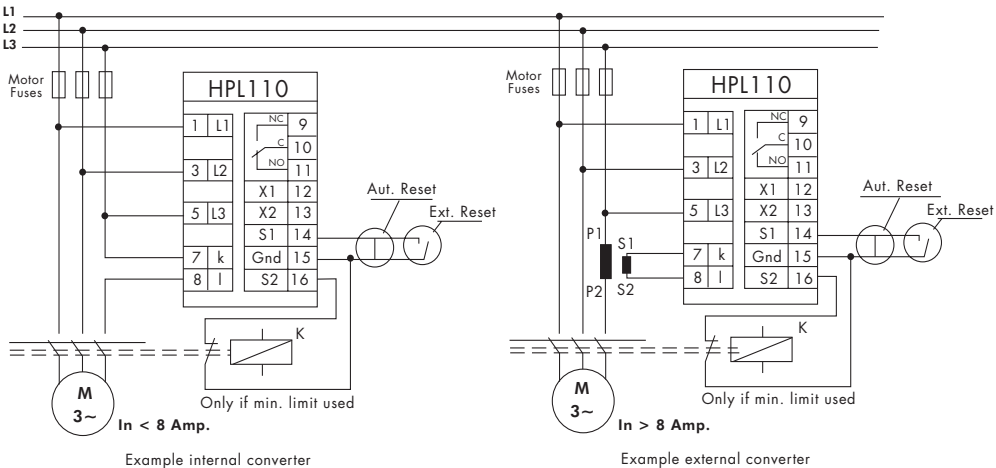

Figure 5.1
The HPL 110 should be connected directly in front of the motor starter unit and downstream of the motor fuses and/or isolation breaker as shown in Figure 5.1.
An external current transformer with a secondary rating of 1 or 5 amps must be used if the rated full load motor current is in excess of 8 amps. Figure 5.1 shows correct installation using the internal current transformer (<8A), and using an external current transformer (>8A).
**Power-Down Alarm Blocking:** When the motor is turned off, power drops to zero and a Min. Limit Alarm will be triggered if L2 is active. Figure 5.1 shows an auxiliary normally closed contact on the motor starter being used to short S2 to Gnd when the motor is off. This activates the S2 inhibit function which inhibits alarm functions and prevents a Min. Limit alarm on power down.